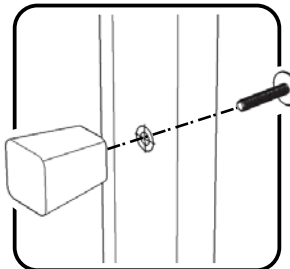

Figure 7
Assemble Pull Handles to Doors (L) and (M) with Machine Screws. (See Figure 7)